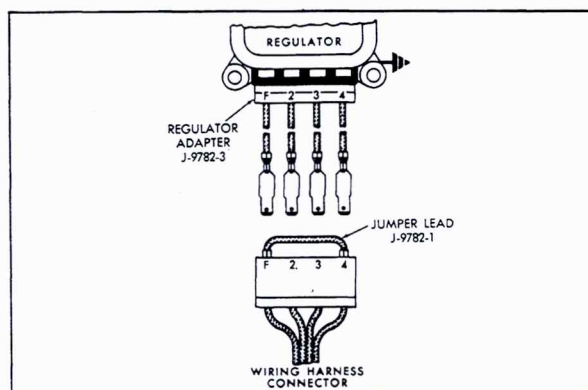

Fig. 6-22 Testing for Opens in Circuit
5. If lamp does glow, remove ground and connect as shown in Fig. 6-22.
voltage regulator setting. If lamp does not glow, leave connections as shown in Fig. 6-22 but connect a second jumper wire from generator "F" terminal to ground.